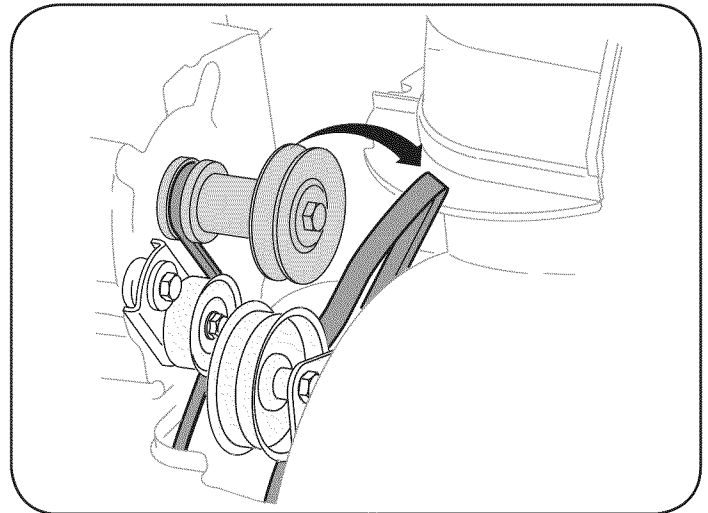

Figure 28
3. Roll the auger belt off the engine pulley. See Figure 28.